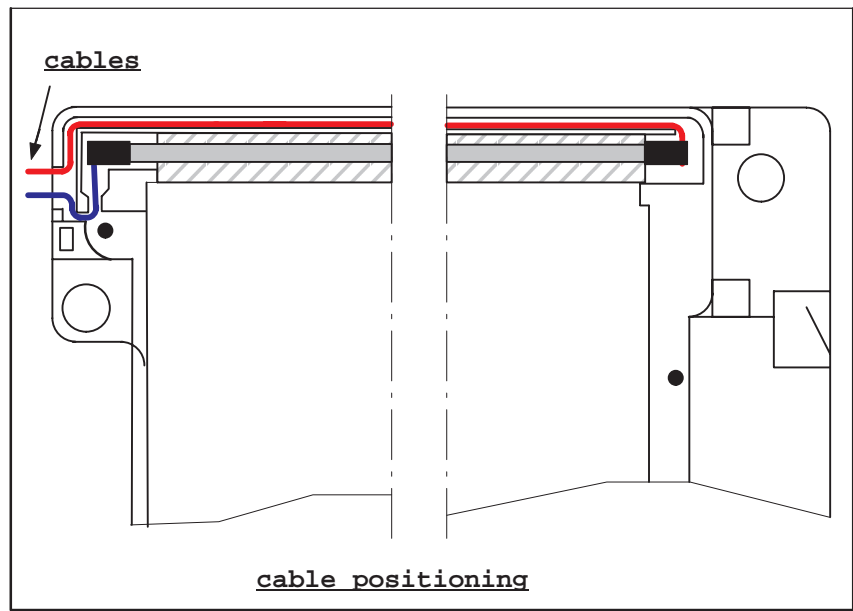

Figure 1-17 Position of the Tube Cables
- The cables connected to the tube must be laid in the appropriate channels (see Figure 1-17).